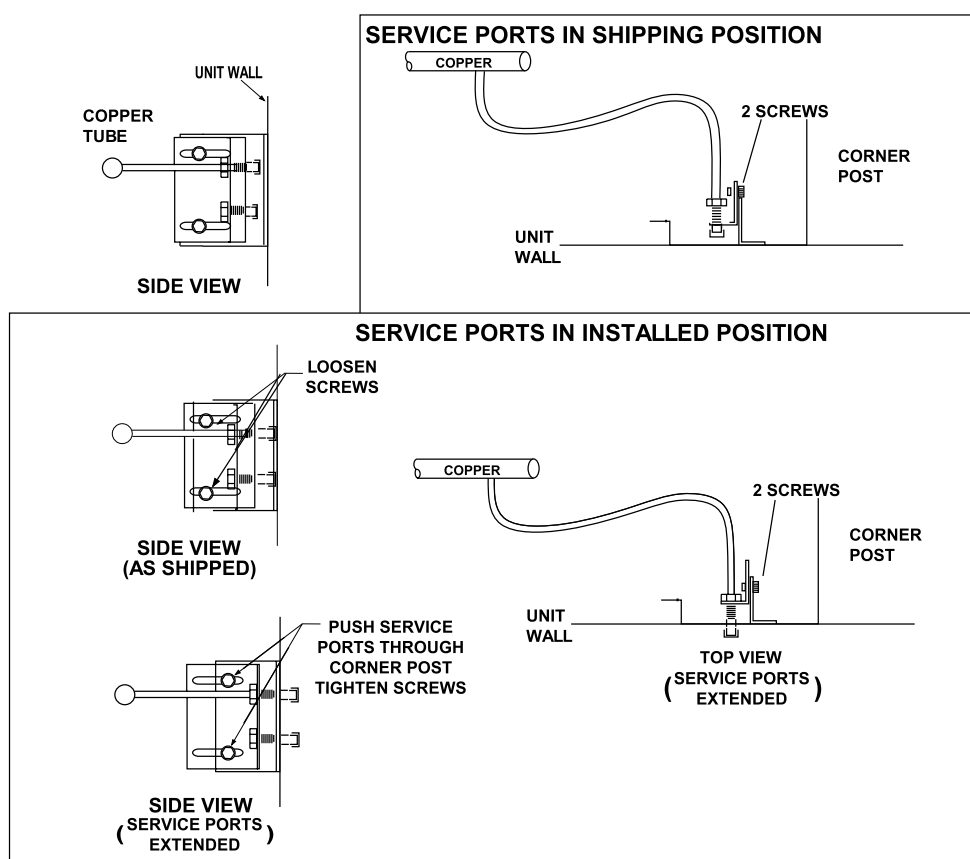

FIGURE 6 - EXTENDING THE SERVICE PORTS
Refer to Figure 6:
1. Loosen the screws securing the service ports in shipping position. (See Figure 6).